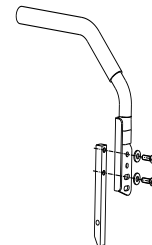

Fig. 5 Installation of lap bars
- Place the lap bars on the outside of the control arm, align it with the connecting hole, and thread the bolt with the disc washer and tighten it. Install the lap bars on the other side in the same way. See Fig. 5